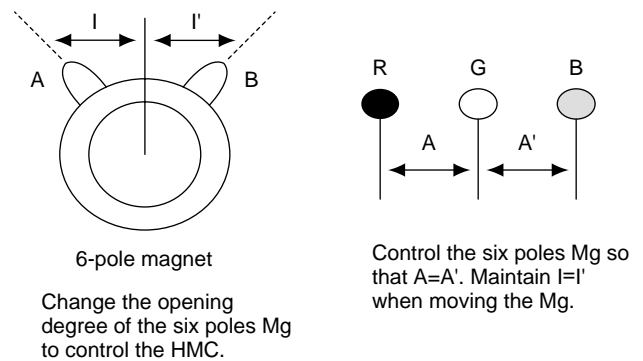

Fig. 2-24
4. For HMC, use the six poles Mg to adjust the R and B dots so that they will be symmetrical horizontally with respect to the G dot. (Fig. 2-24)